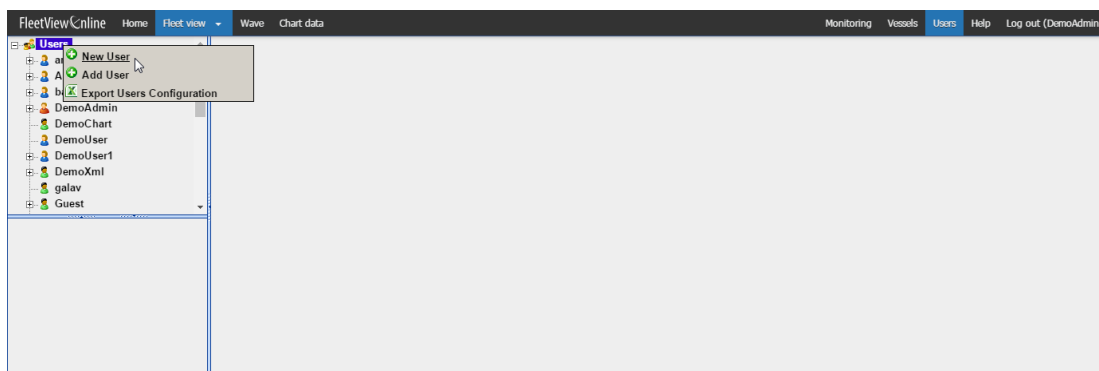

Figure 2. Creating new user
- > Right-click the **Users** sub tree and choose the **New User** item from the context menu to create a new user (see Figure 2. Creating new user). The right-hand side of the screen will display the User settings.